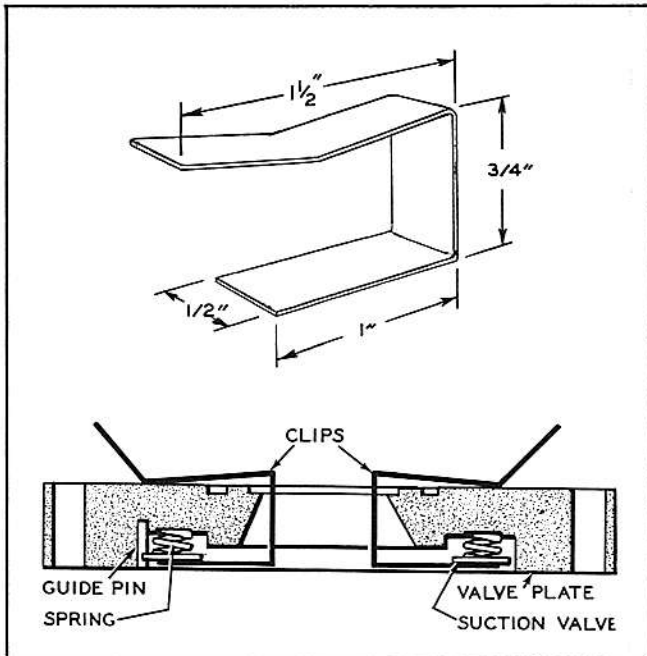

Fig. 31 - Clips Applied to Suction Valve Plate
- (b) So that the valve plate with its valve in place may be inverted for assembly to the compressor, make two sheet metal clips as shown by Fig. 31.